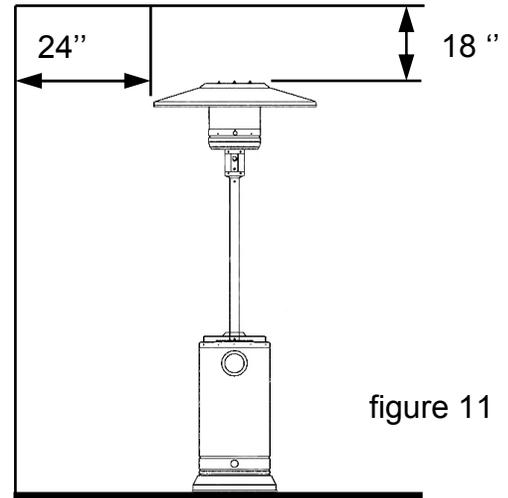

figure 11
- Respect minimum clearances to combustibles as shown in figure 11 above.